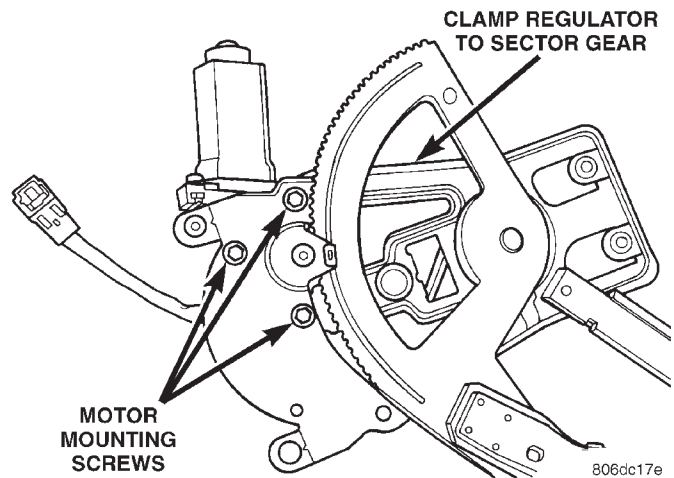

Fig. 4 Motor Removal
- (3) Disconnect wiring connector from motor.
- (4) Secure the sector gear and mounting plate with a C clamp or similar clamping tool. This will prevent a sudden and forceful movement of the regulator when the motor is removed.
- (5) Remove three mounting screws that hold motor gearbox to regulator (Fig. 4).
- (6) Remove motor from regulator.